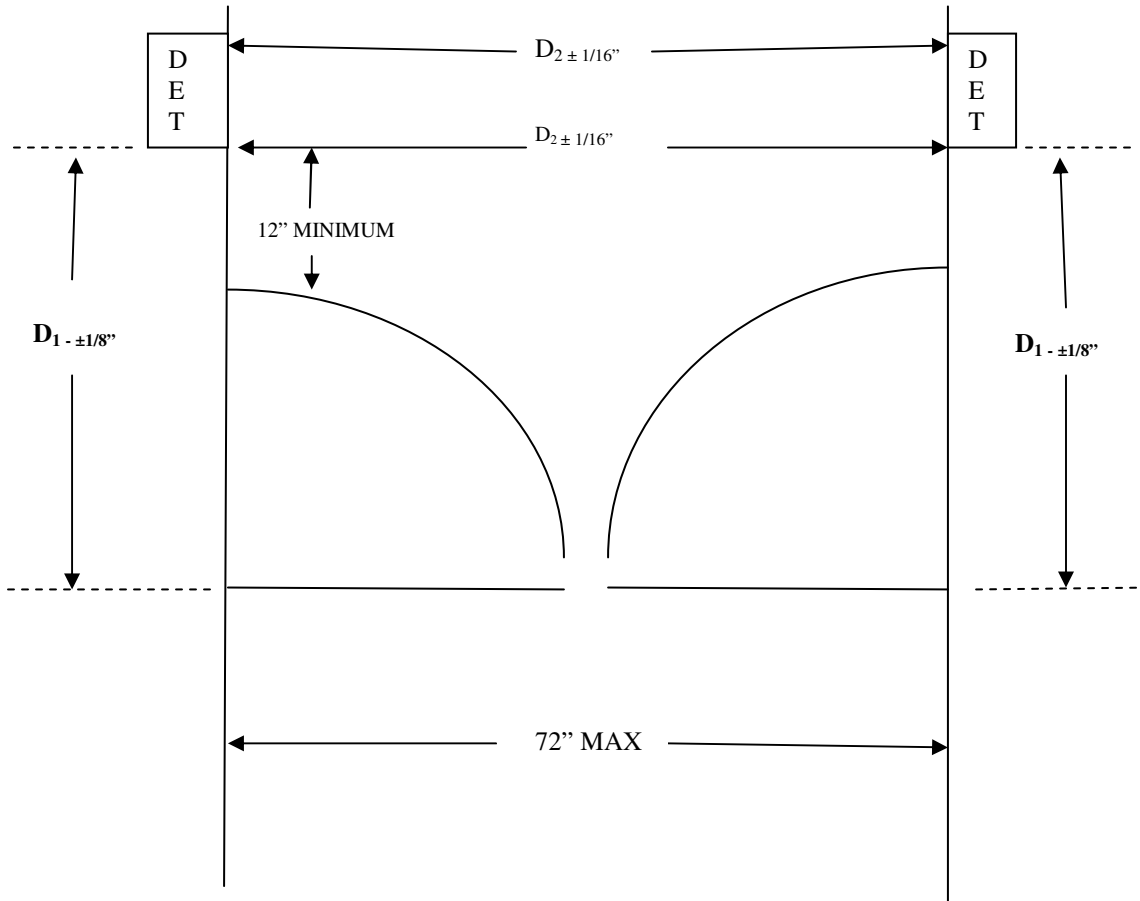

FIGURE 15
- 6.5.2 DETECTOR HOUSINGS MUST BE INSTALLED AS PER THE RECOMMENDATIONS IN FIGURE 15. DETECTORS MUST BE LOCATED DIRECTLY ACROSS FROM EACH OTHER AND EACH DETECTORS SIDE AND FRONT SURFACES MUST BE PLUMB.